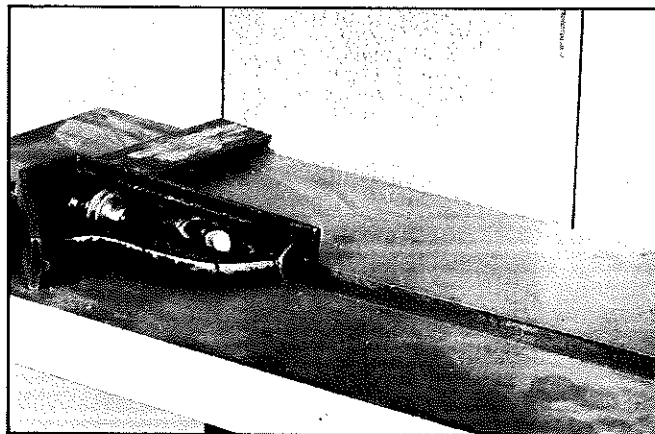

Fig. 23
1. Check to see if the miter gage slot is parallel with the sanding belt by placing a square in the miter gage slot with one end of the square against the belt, as shown in Fig. 23.